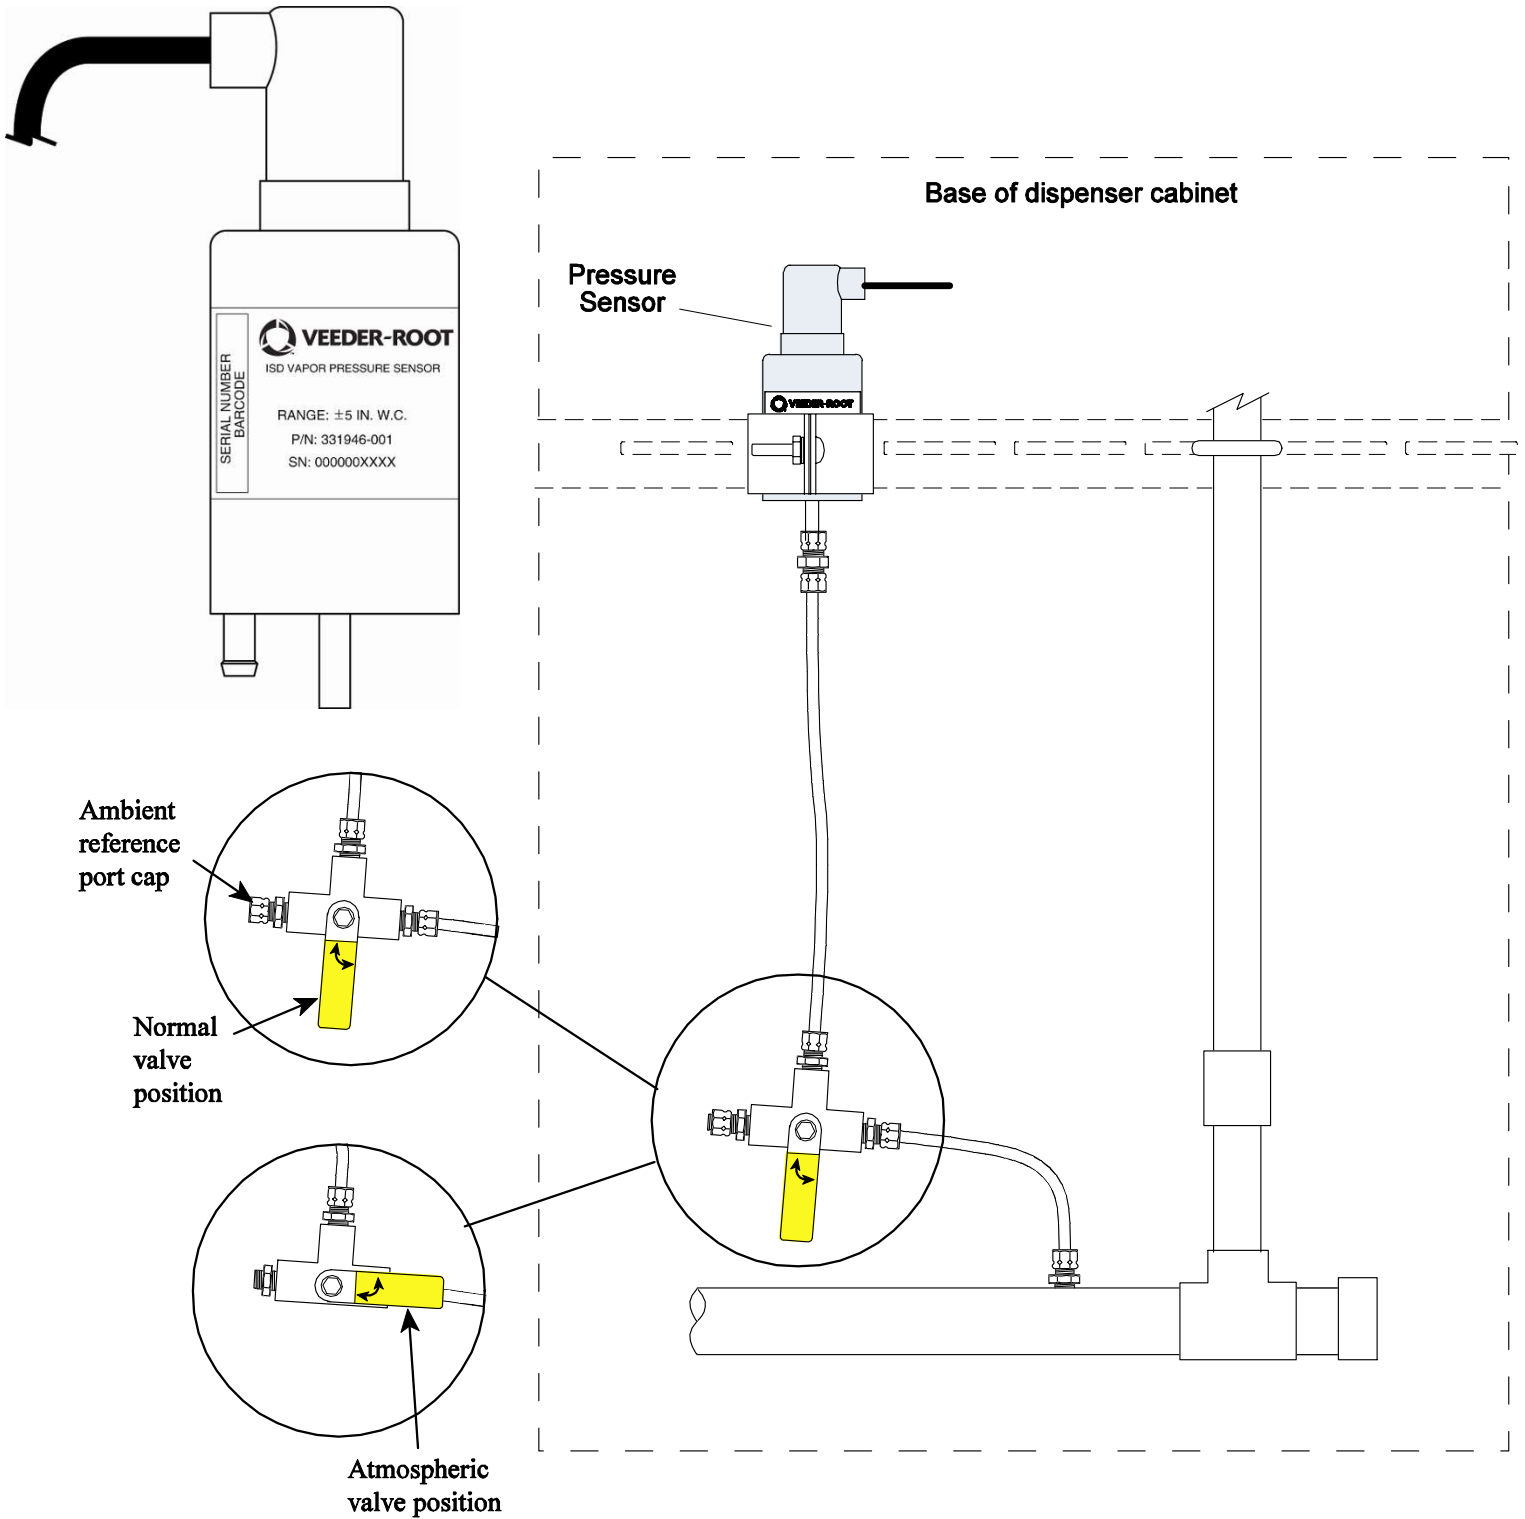
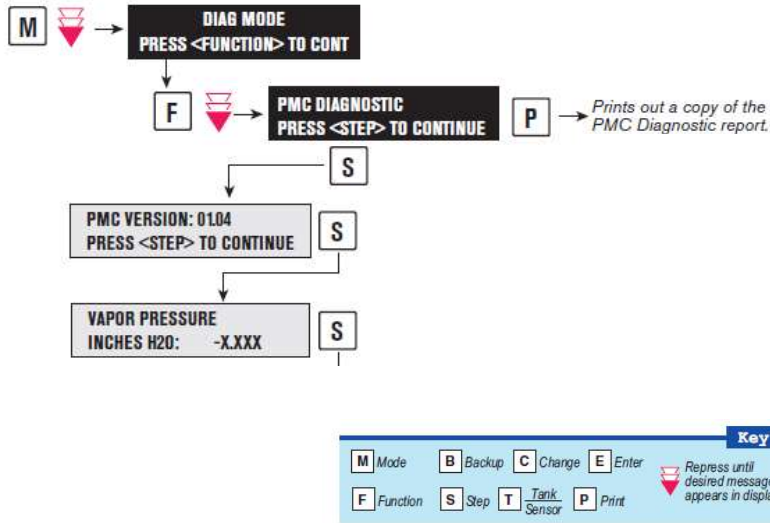

FIGURE 10-4
FIGURE 10-5
- 8.2. For gasoline dispensing facilities equipped with the VST Membrane Processor, VST Green Machine Processor, or Veeder Root Vapor Polisher Processor access the current vapor pressure sensor reading as indicated in Figure 10-4.
For gasoline dispensing facilities equipped with the Franklin Fueling Systems Healy Clean Air Separator or Hirt VCS 100 Thermal Oxidizer access the current vapor pressure sensor reading as indicated in Figure 10-5.
9.3. For gasoline dispensing facilities equipped with the VST Membrane Processor, VST Green Machine Processor, or Veeder Root Vapor Polisher Processor access the current vapor pressure sensor reading as indicated in Figure 10-4.
STEP 8.3	TLS Console SENSOR VALUE _____ inches WC (OBTAIN VALUE USING TLS CONSOLE KEYPAD SEQUENCE SHOWN IN FIG. 10-4 or FIG. 10-5, Vapor Pressure)
STEP 9.3	NON-CALIBRATED SENSOR VALUE _____ Inches WC (OBTAIN VALUE USING TLS CONSOLE KEYPAD SEQUENCE SHOWN IN FIG. 10-4 or FIG. 10-5, Vapor Pressure)